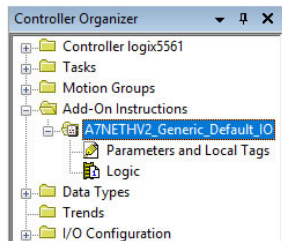

Figure 46: Generic Default IO Add-On Instruction
- 2) Right click on “Add-On Instructions” in the controller organizer view and select “Import Add-On Instruction”. Browse and import the generic default I/O add-on instruction. Refer to Figure 46.